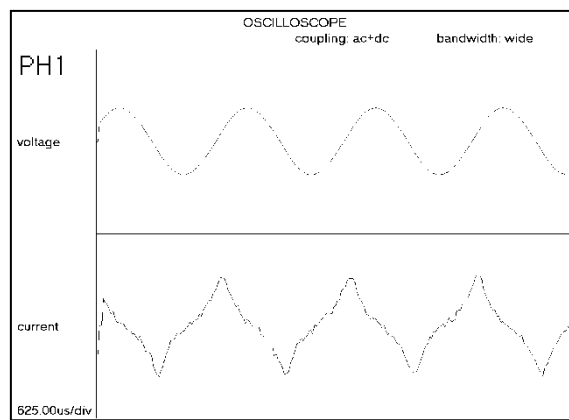

Fig 1 (Distorted current waveform)
*Note: The amplifier contains an output rms current protection circuit, and when driving some capacitive loads this circuit may be activated. Due to capacitor construction, at high current the amount of energy transfer distorts the current waveform resulting in excessive peak current (Fig 1 below), whilst the rms value remains within specification. To ensure correct functionality and prevent false triggering of the protection circuit, ideally, the current waveform should be a sinewave as pictured in (Fig.2 below).*